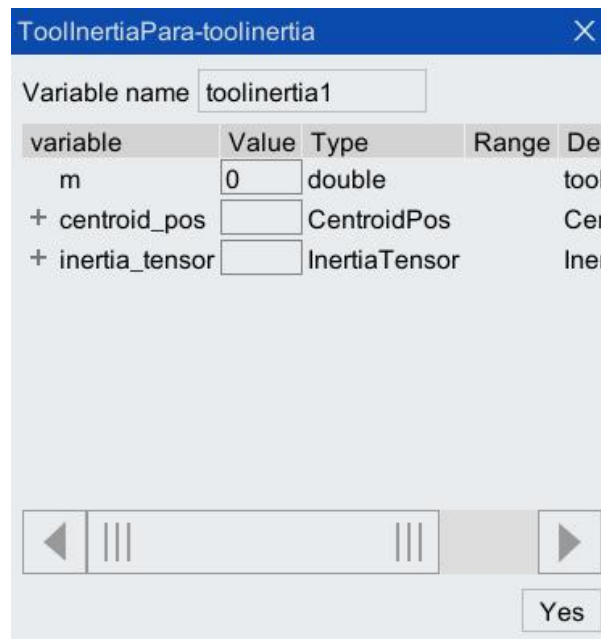

Figure 5-50 "Tool Load Inertia" parameter list
Step2. Click <...> button on the right side to pop up "ToolInertiaPara-ToolInertia" parameter list, as shown in Figure 5-50. The variable *m* represents the tool mass, *centroid\_pos* represents the position of centroid, *centroid\_dir* represents the direction of the inertia main axis, and *moment\_inertia* represents the main moment of inertia. After setting according to the actual needs, click <Yes> button.